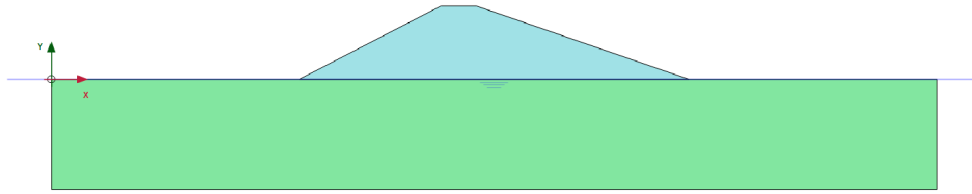

Figure 2-5: Configuration of phase 1
- Right-click on the embankment and from the popup menu select the **Activate** option to activate the soil representing the embankment. The model of phase 1 is shown in Figure 2-5 \(p. 45\).